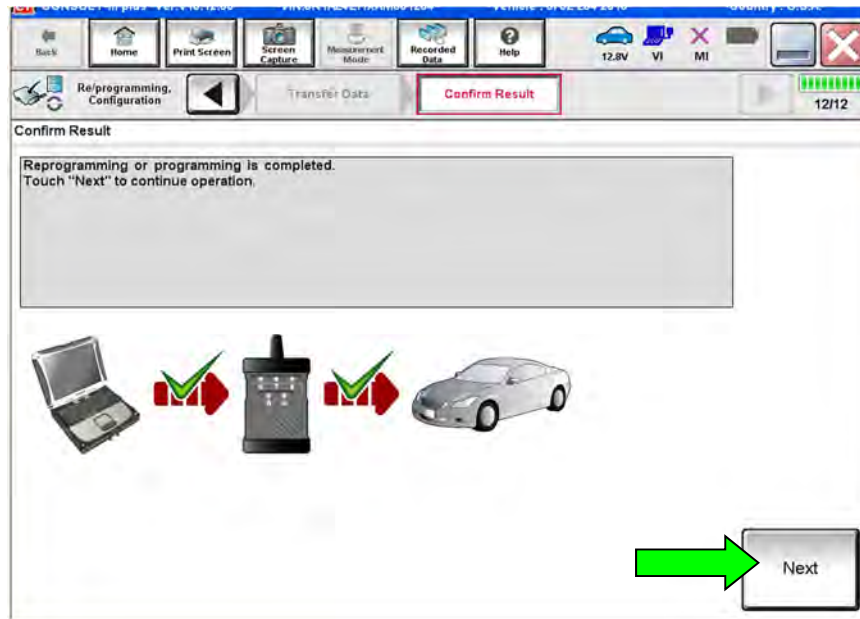

Figure 251
246. When the screen in Figure 251 displays, the reprogramming is complete.
**NOTE:** If the screen in Figure 251 does not display (which indicates reprogramming did not complete), skip to **TCM RECOVERY** on page 126.